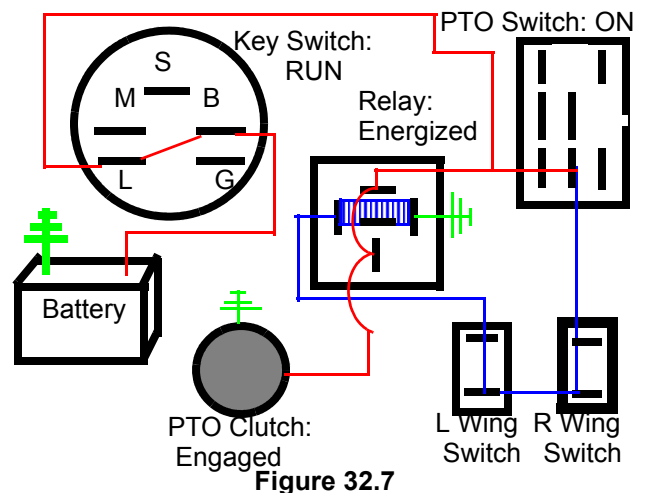

Figure 32.7
32.7. If both deck wings are down and latched, power reaches spade #88 on the relay, energizing the windings. See Figure 32.7.